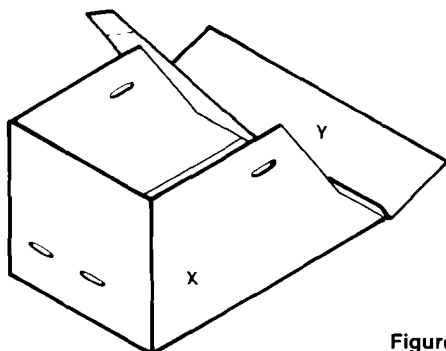

Figure 15
4. Place carton part "Y" into V cut of carton part "X". (See figure 15.)